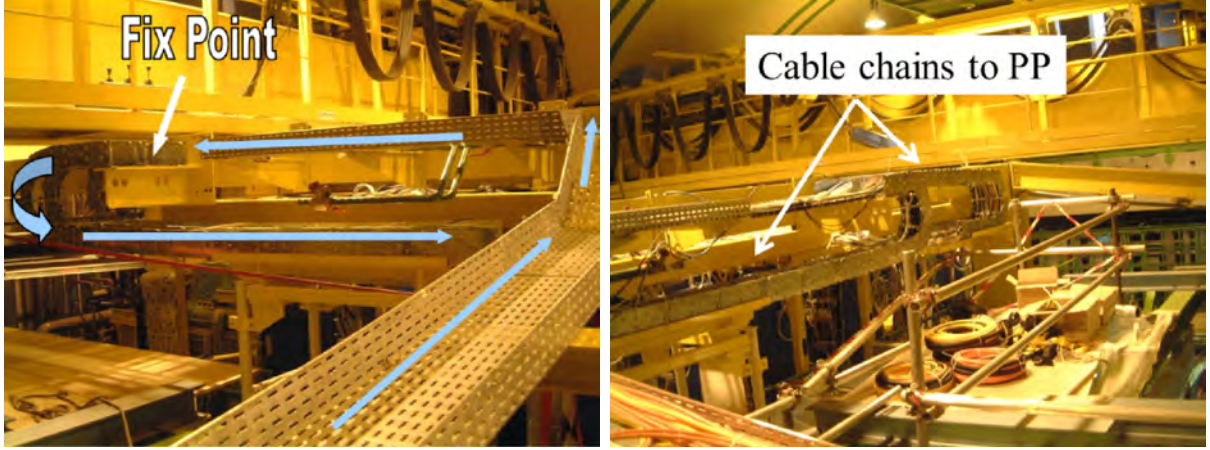

Figure 26: View of the cable path between the patch panel and the cable chain.
**PS/SPD cables between ECAL platform and barracks** Some PS/SPD cables used on the ECAL platform are going to the barracks via a patch panel located in the rack Q2A01, third level behind the muon filter. These cables are no longer needed and have to be removed. From the ECAL platform they are going to the cable chains between ECAL/HCAL and the fixed point and to cable trays to the patch panels (Fig. 26) as the one used for ECAL and HCAL [56]. There are two kinds of cables: